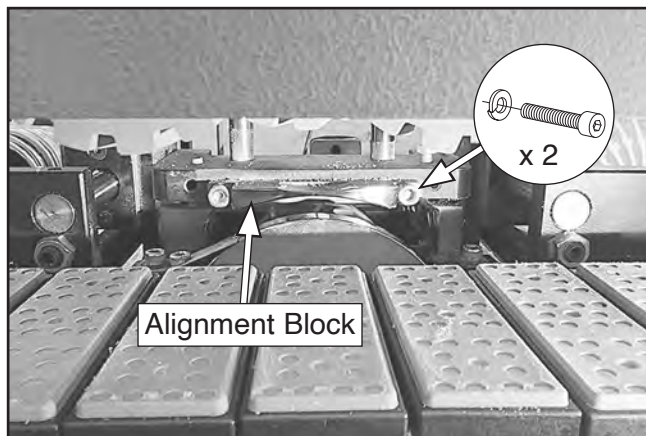

Figure 119. Location of flush trimmer alignment block.
6. Loosen (2) flange screws, then remove lower dust shroud.
7. Remove (2) cap screws and lock washers (see **Figure 119**), then remove flush trimmer alignment block.